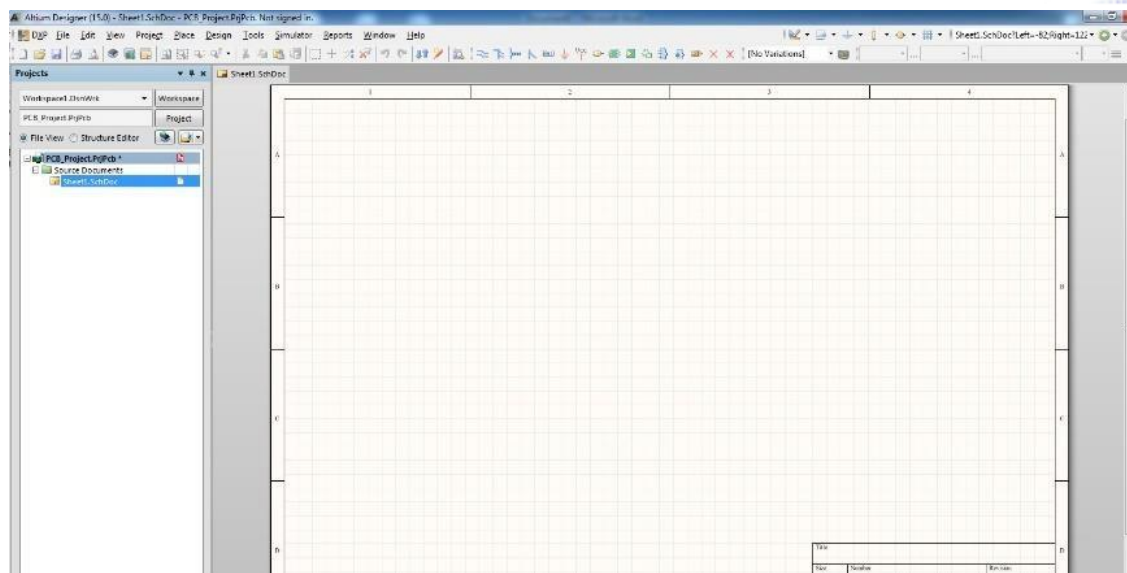

Figure 2.62: Create Circuit Scheme
- Choose **File** ➤ **New** ➤ **Project** ➤ **PCB Project**, figure 2.62.